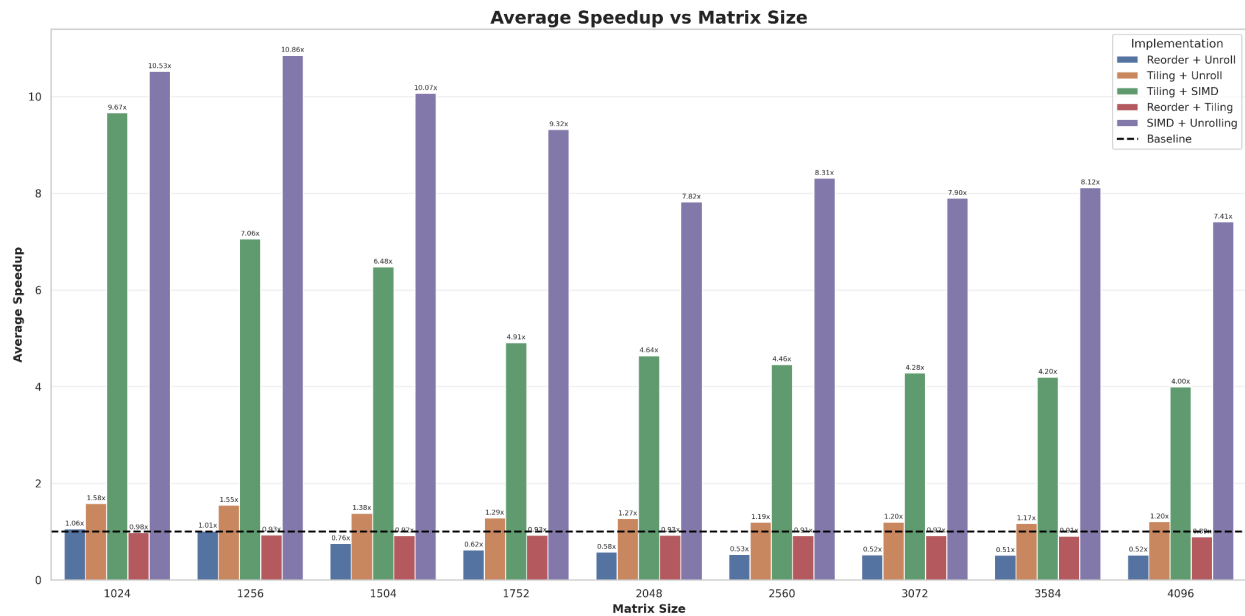
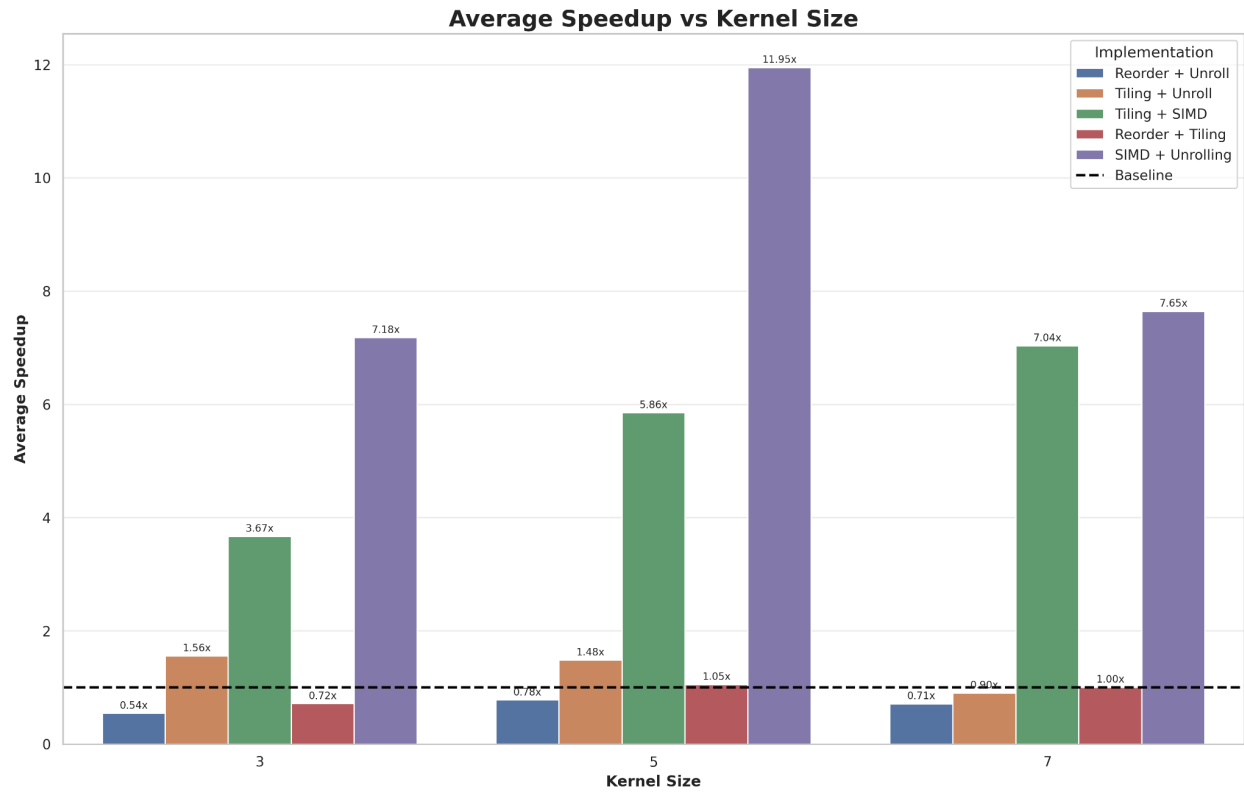

Figure 5.1
Figure 5.2
- SIMD + Unrolling achieves the best overall performance, peaking at a 11.95x speedup for K=5 and maintaining 7.18x to 7.65x speedups for K=3 and K=7 (Figure 5.2). Across matrix sizes, it stays consistently well above the naive baseline (Figure 5.1).